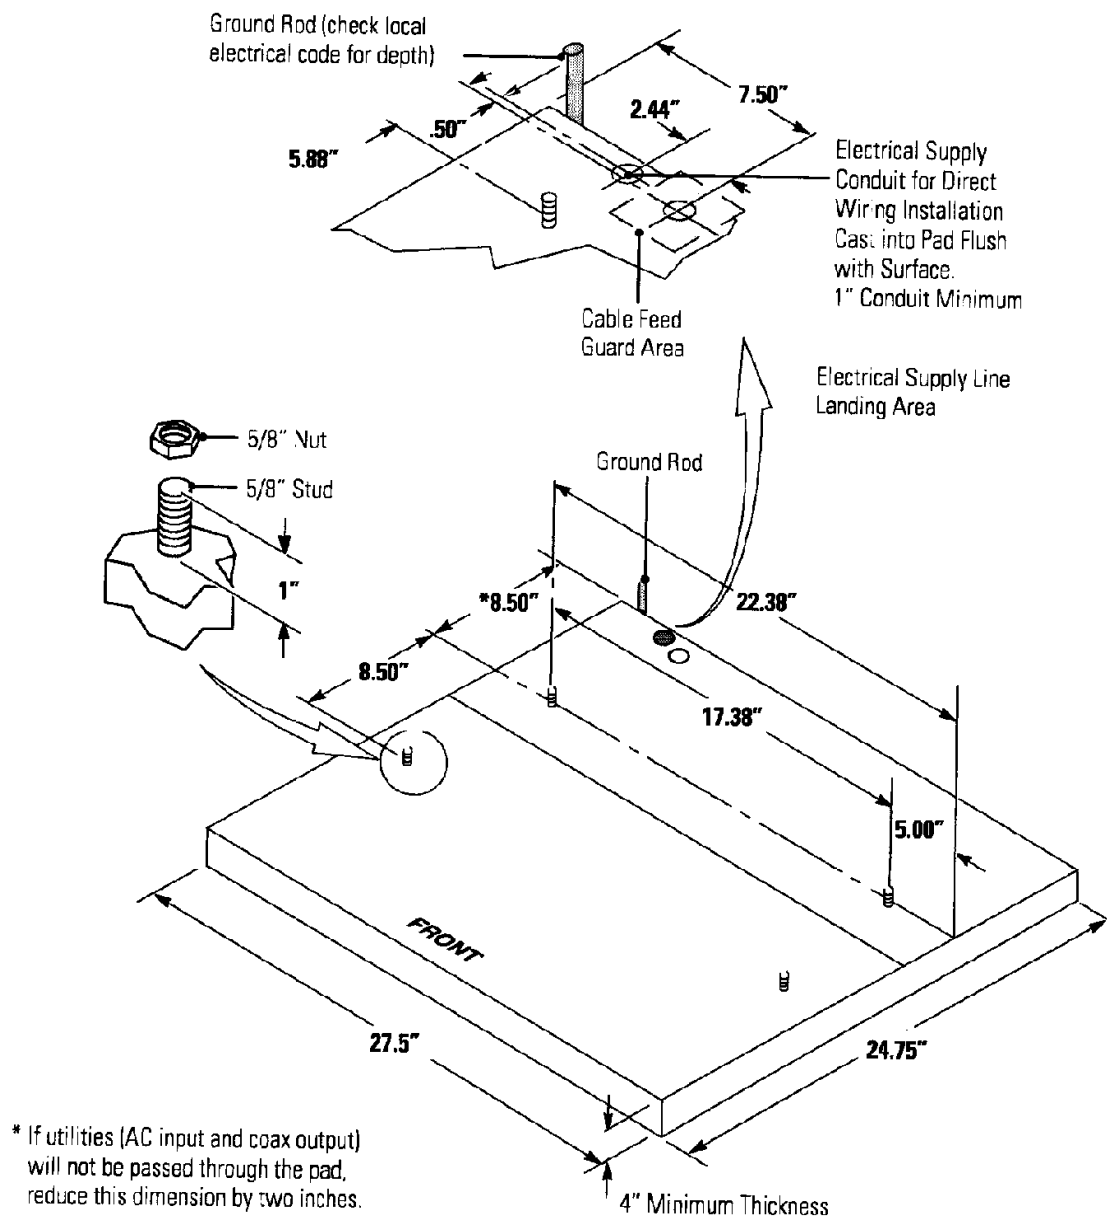
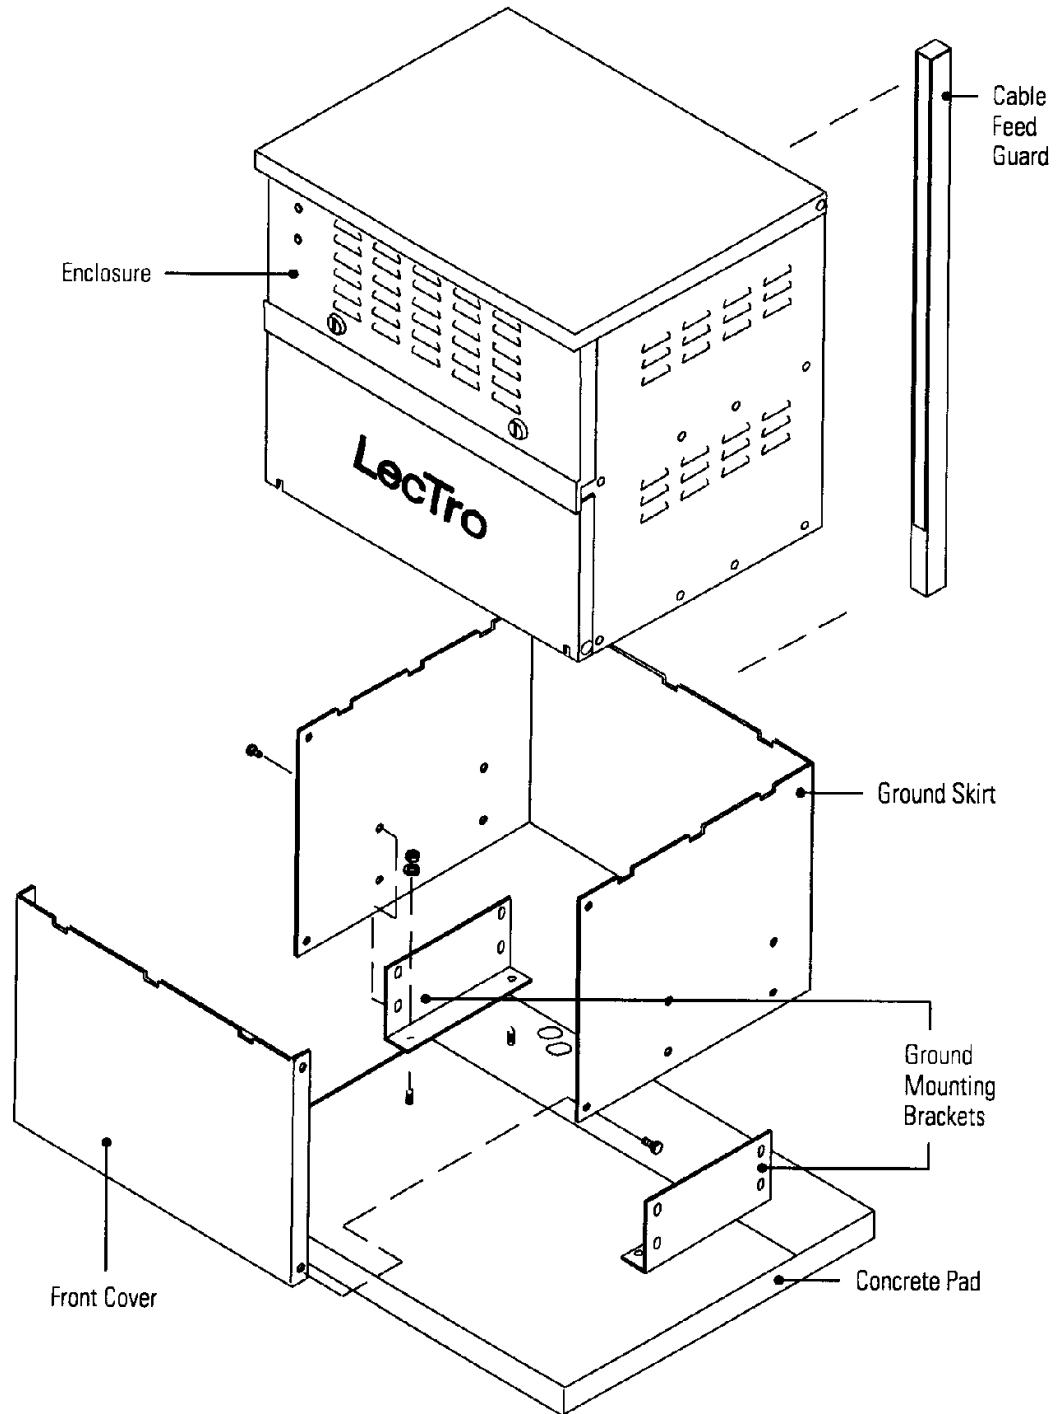
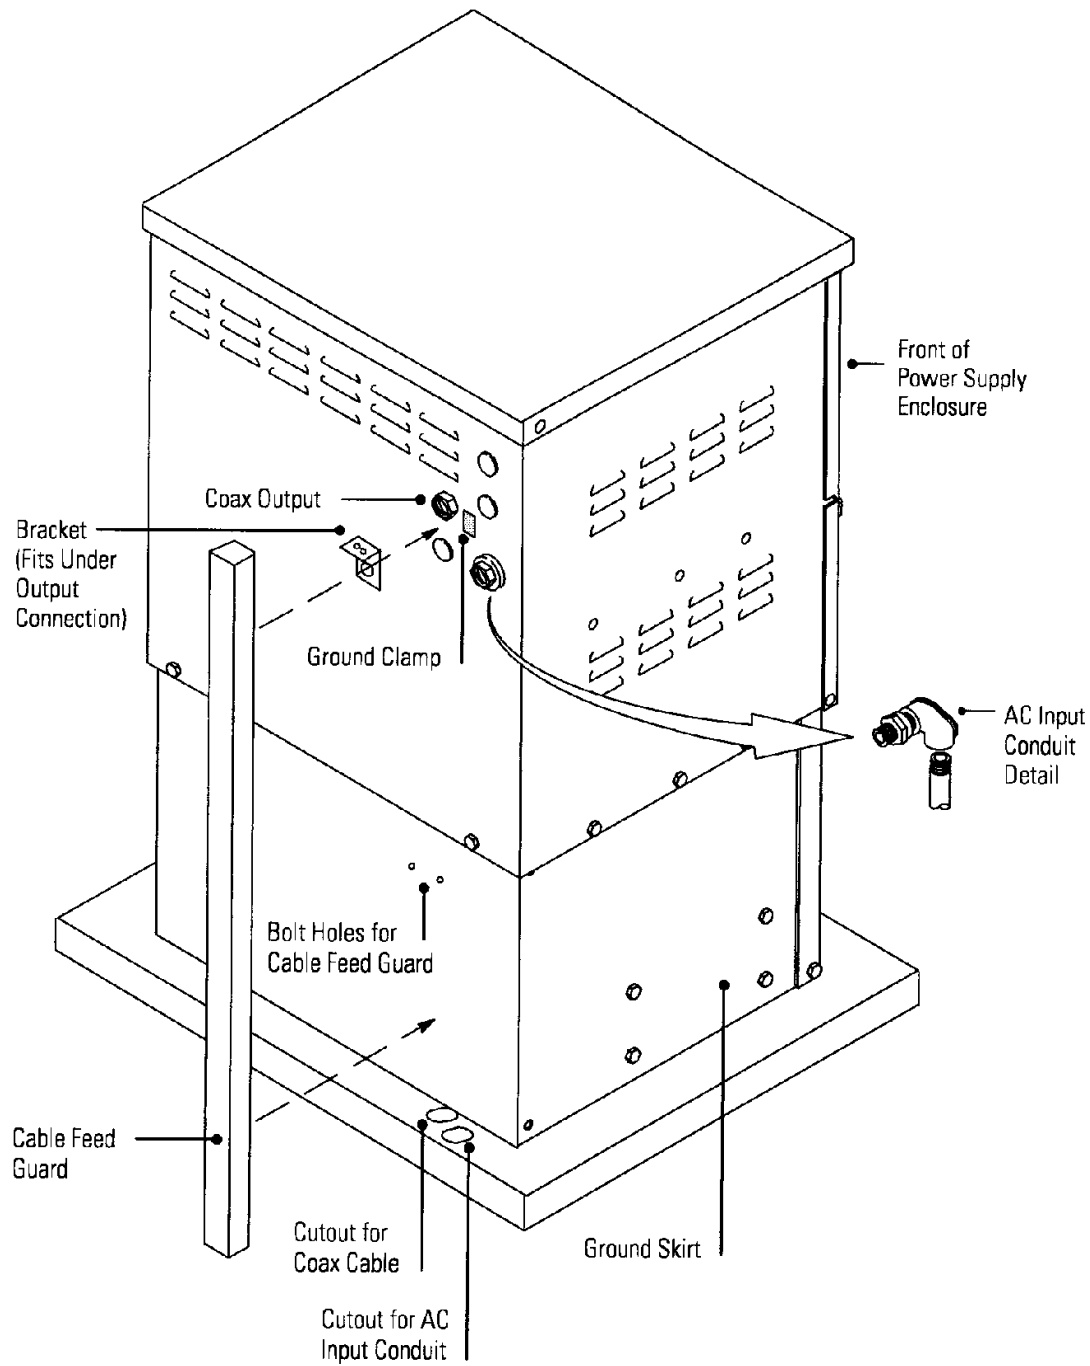

Fig. 2-5 Ground Mount (Cement Pad)
Fig. 2-6 Ground Mount (Front View)
Fig. 2-7 Ground Mount (Rear View)
Although ground mounting the power supply can be accomplished by several methods, the following procedure is recommended. Figure 2-5, Figure 2-6, and Figure 2-7 illustrate the ground mount installation.
3. From the disconnect, install conduit to the power supply site and turn a stub up to extend above ground level. Drive a suitable ground rod according to local codes (see Figure 2-5). Install appropriate size conduit for the output connections and turn a stub up to extend flush with the pad surface cast into the concrete. Ensure the conduit locations correspond with the appropriate cabinet connections.
4. Using 1 X 4 lumber, construct a form for the cement pad (see Figure 2-5 for dimensions). Anchor the form securely to the ground.
10. Attach the power supply cabinet to the concrete pad using 5/8" nuts (not provided) through the ground mounting brackets (see Figure 2-6). Tighten all hardware securely.